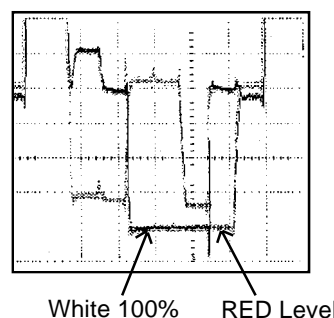

Fig. 2-3
7. Press the VOL. UP/DOWN button on the remote control until the red color level is adjusted to 100% of the white level. **(Refer to Fig. 2-3)**
12. Press the VOL. UP/DOWN button on the remote control until the red color level is adjusted to 100% of the white level. **(Refer to Fig. 2-3)**